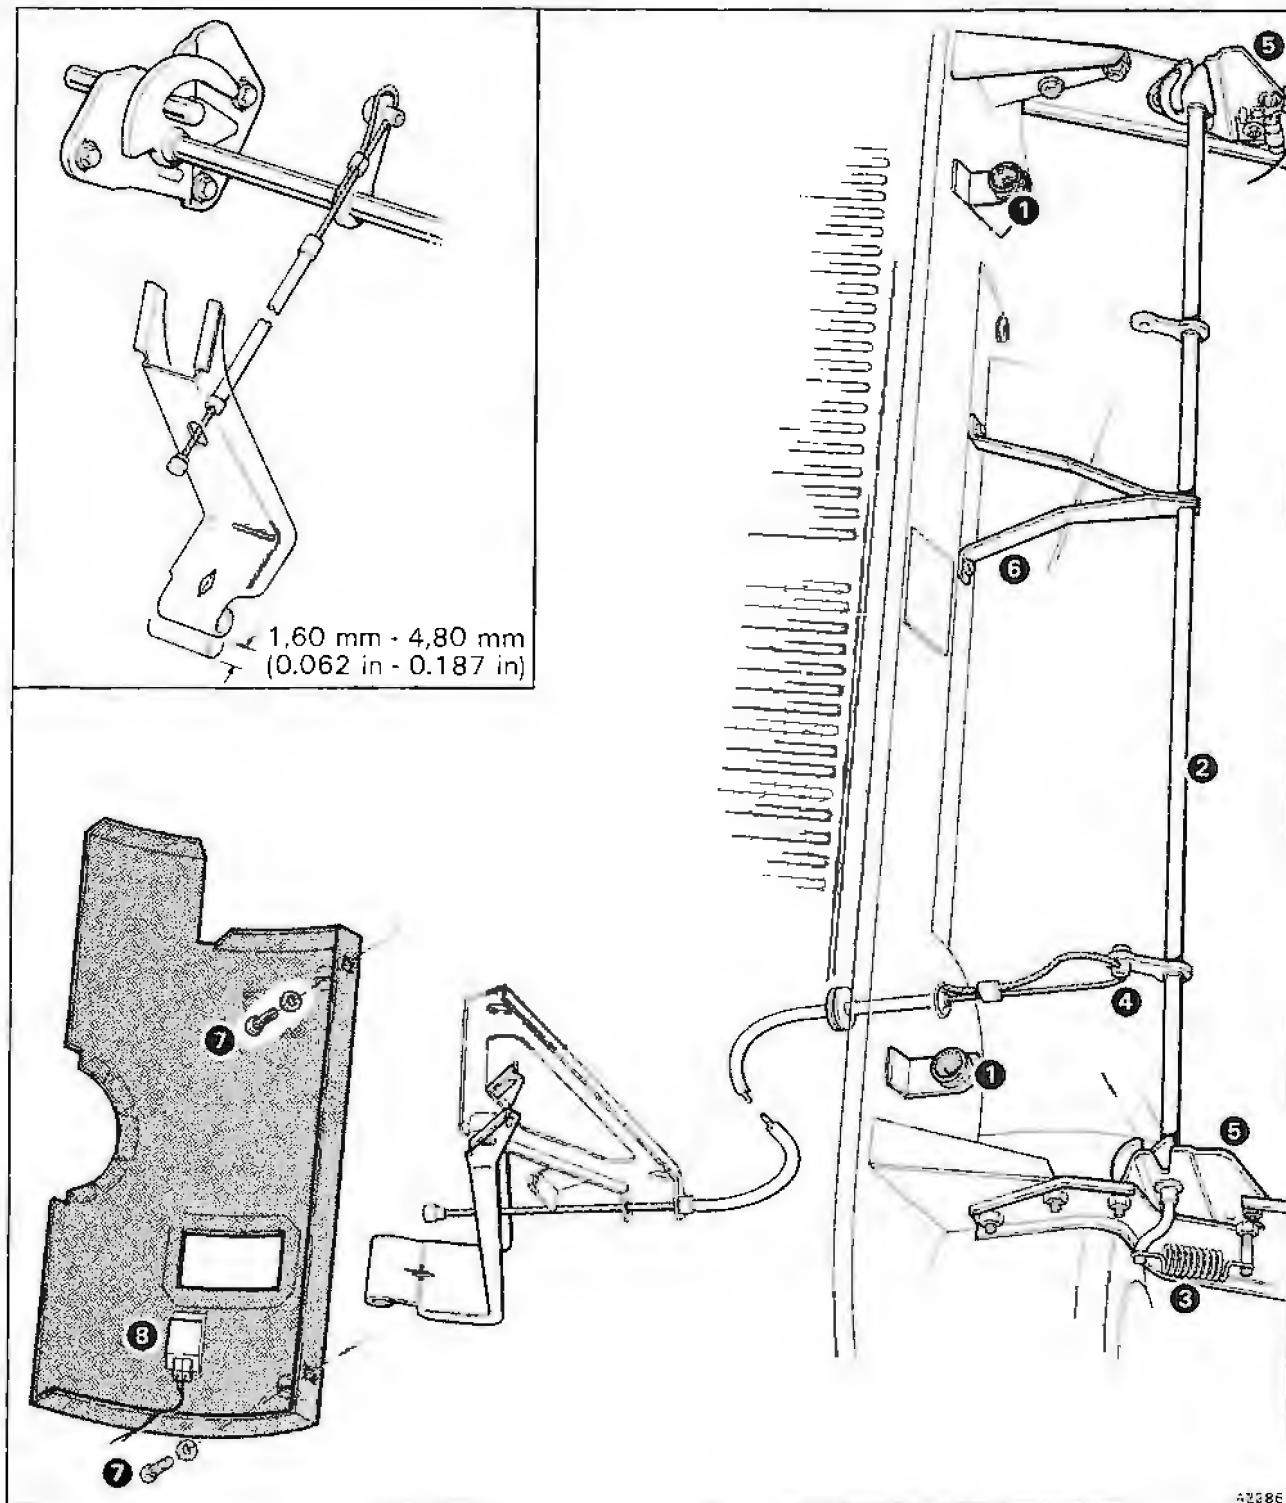

Fig. S22-2 Bonnet release mechanism
3. Ensure that the bonnet locating pegs align with their respective rubber bushes situated on the bulkhead (see fig. S22-2, item 1).
Bonnet catch mechanism – To remove and fit (see fig. S22-2)
Bonnet release cable – To renew (see fig. S22-2)